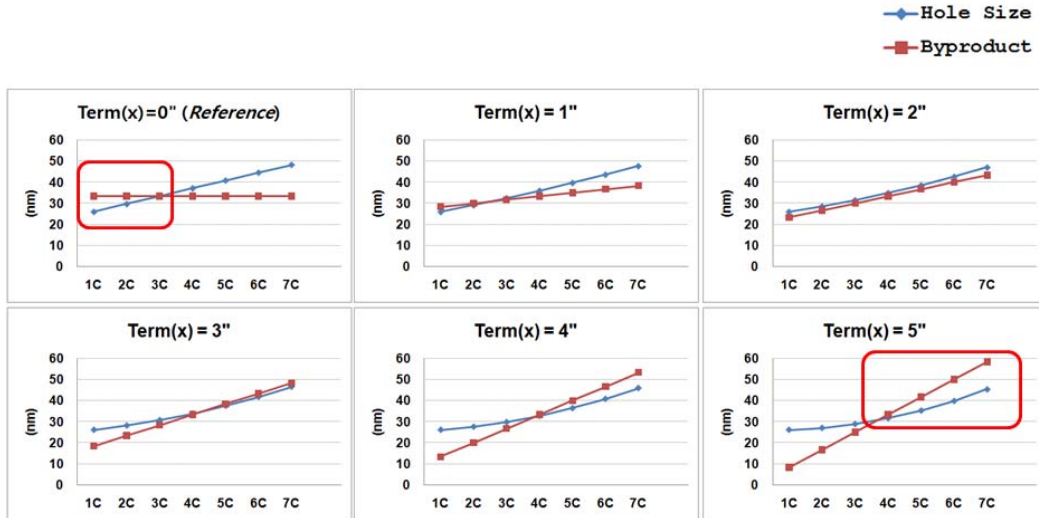

Figure.4 : Correlation between the Byproduct and Hole Size by STC value
- Test Result : Stepwise Value = 1~3" [Figure.4]